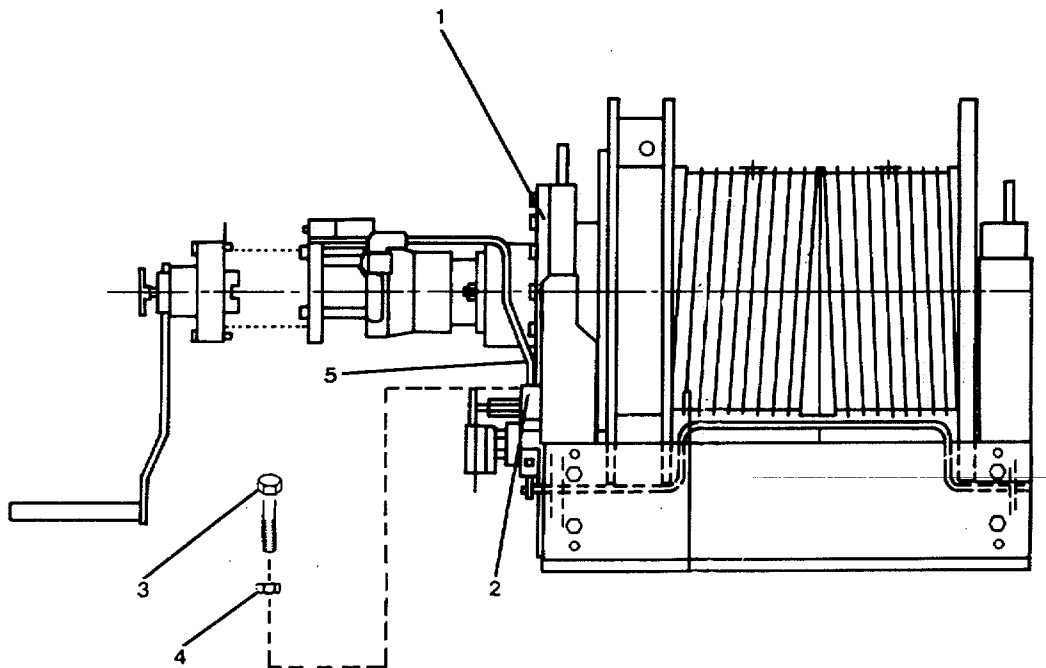
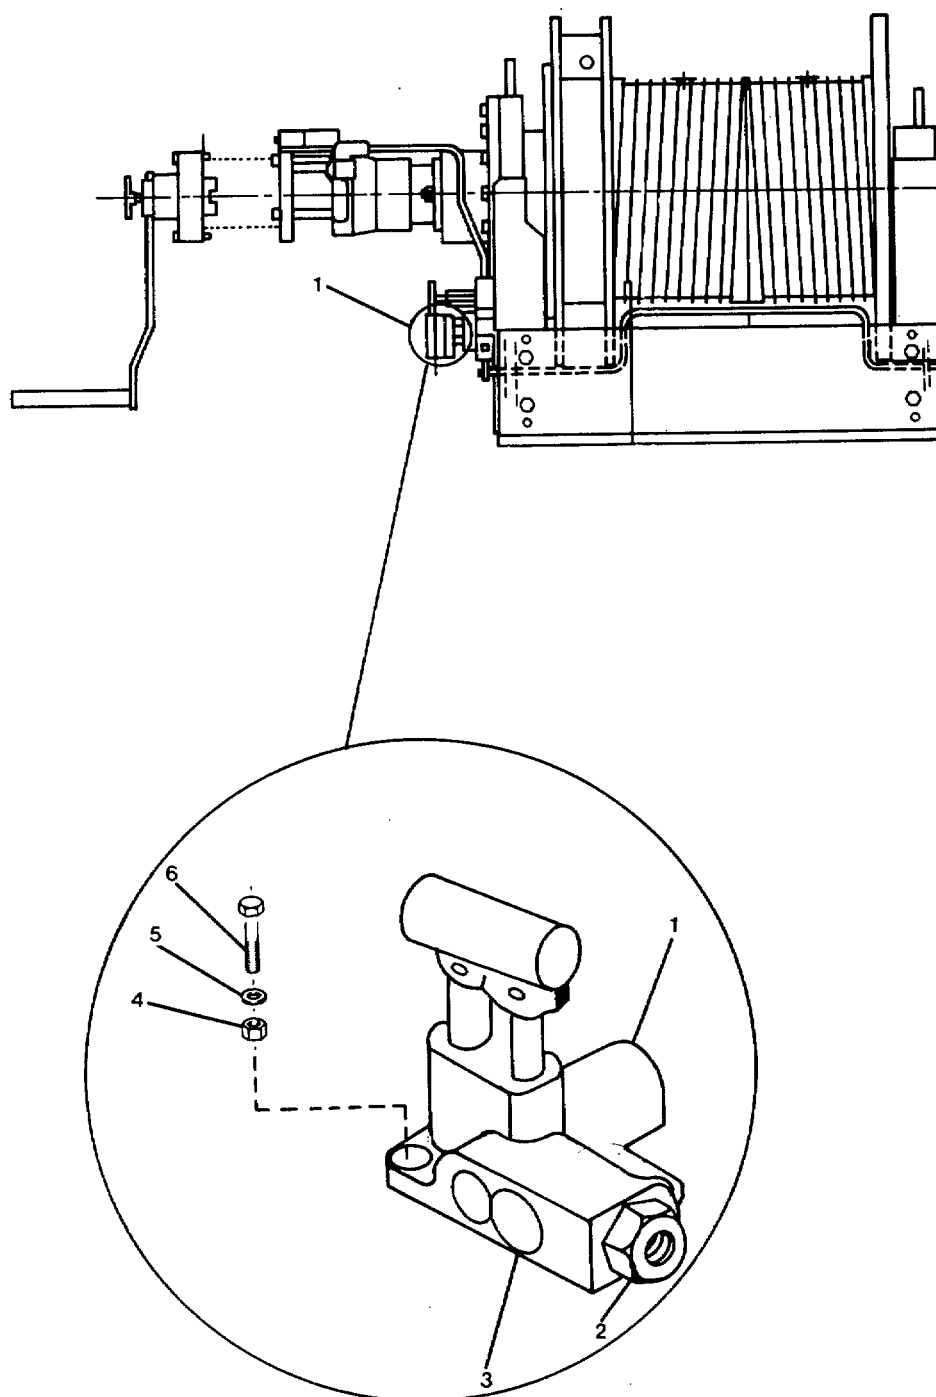

FIGURE 2-5. Hydraulic Winch Assembly Shutoff Valve Replacement.
FIGURE 2-6. Hydraulic Hand Pump Removal.
2-19. Repair Hydraulic Winch Assembly. (FIGURE 2-5)
2-20. Replace Hydraulic Hand Pump . (FIGURE 2-6).
- a. Position the shutoff valve (2, FIGURE 2-5) on the hydraulic winch assembly to "Close."
- b. Place a suitable container under the hydraulic pipe connections (2,3, FIGURE 2-6).
- d. Remove three bolts, (6) lockwashers, (5) and nuts (4) securing the hydraulic hand pump to the bow ramp winch.
- e. Remove the hydraulic hand pump (1).
- f. Turn shutoff valve base (2, FIGURE 2-5) counterclockwise until it is removed from bow ramp winch piping assembly.
- a. Position the mounting holes of the hydraulic hand pump (1, FIGURE 2-6) over the mounting holes in the bow ramp winch.
- b. Install three bolts (6), lockwashers (5), and nuts (4), that secure the hydraulic hand pump (1) to the bow ramp winch.
- d. Position shutoff valve (2, FIGURE 2-5) into mounting hole of winch piping assembly and turn clockwise until it is snug. Place valve to "Open."
- a. Pull manual release lever "T" handle (4) on hand pump (2).
- b. Set shutoff hand valve (2, FIGURE 2-5) fully clockwise; closed.
- c. Turn emergency hand crank handle (5) in both directions to ensure winch is locked in position.
- d. Remove three screws (3) securing emergency hand crank to manual interlock switch (1).
- e. Remove handcrank (5).
- a. Position handcrank handle (5) on manual interlock switch (1), secure with three screws (3).
- b. Turn crank handle (5), listen for ratchet dog engaging ratchet wheel teeth.
- c. Set shutoff hand valve (2, FIGURE 2-5) fully counterclockwise; open.
- d. Push manual release lever "T" handle (4) in on hand pump (2).